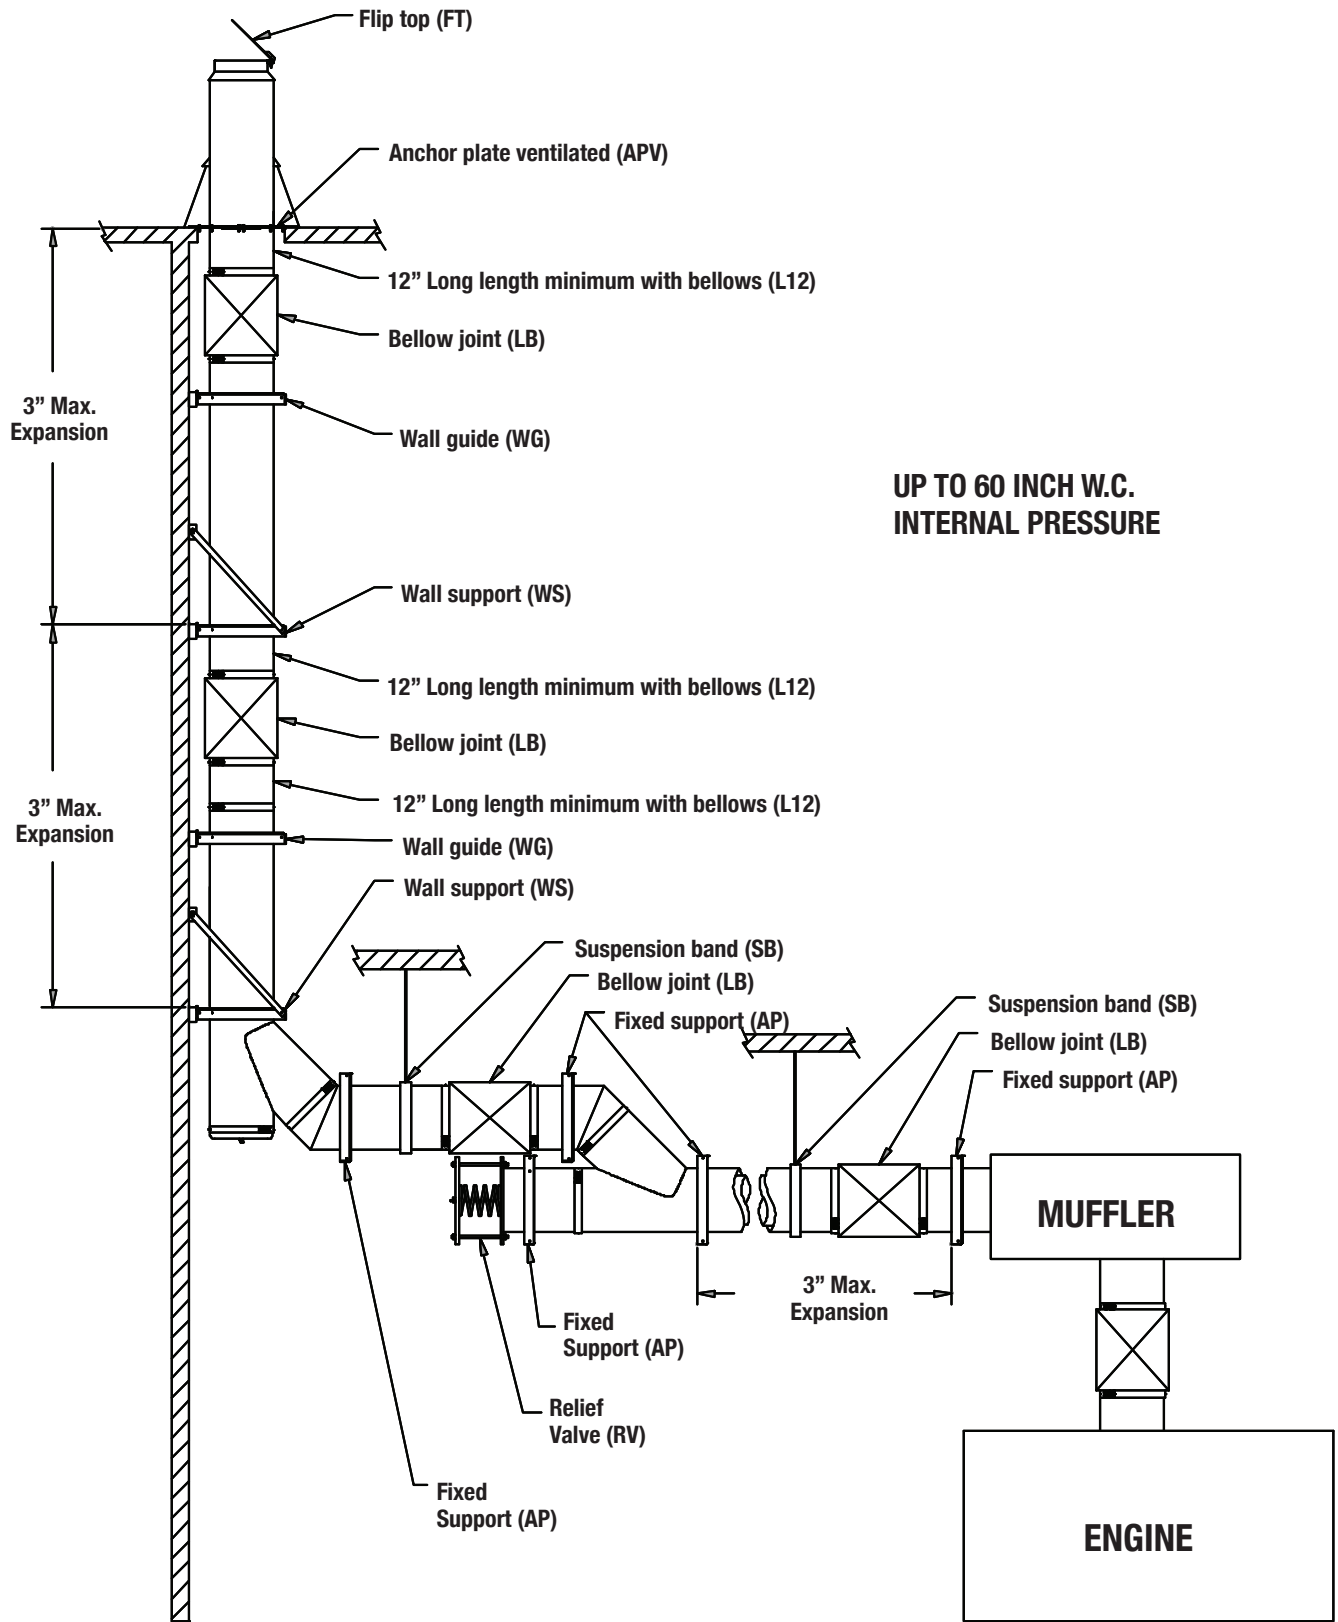

Figure 51 - Bellow Joint installation on Diesel Engine
1. A Bellows Expansion Joints or Adjustable Length installed vertically should be installed directly below one chimney length of the highest support, between fixed points (see **Figure 51**).
4. We suggest to always install a 12" length chimney downstream and upstream the bellow to insure clearance for the liner and adding accessibility for supporting and guiding. See **Figure 51** "bellowjoint" for good positioning of the bellow expansion joint.